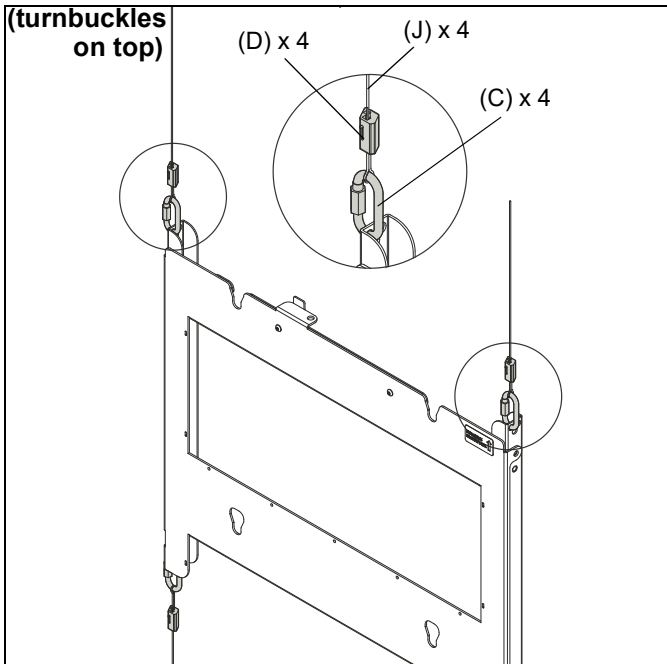

Figure 6
- Use four connecting links (C) and cable locks (D) to secure cables (J) to two outer frames (A). (See Figure 6)